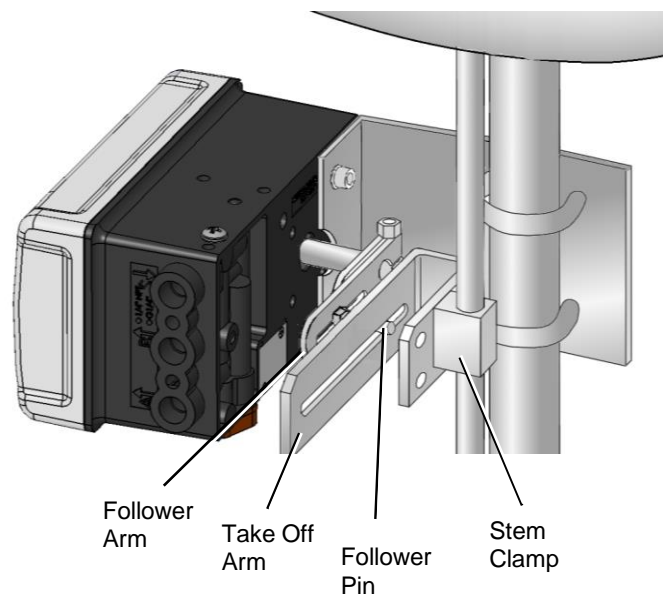

Figure 17: Mounting to a Linear Actuator
- 1 Attach the mounting plate to the positioner using 4 screws. See Figure 17.